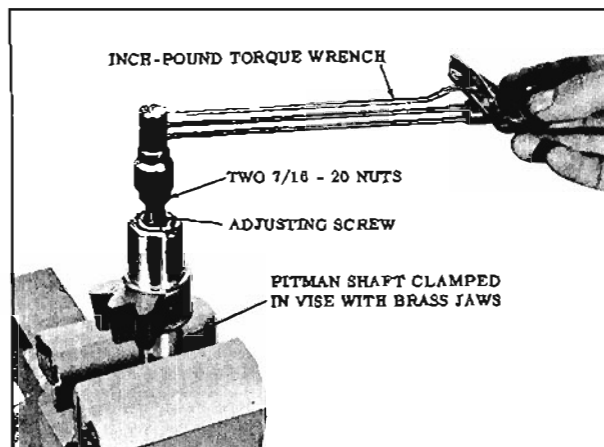

Fig. 8-59 Checking Adjusting Screw Torque
2. Using a 5/8" socket and an inch-pound torque wrench, measure the torque required to turn the adjusting screw. (Fig. 8-59) Torque reading should be 1 to 15 in. lbs.